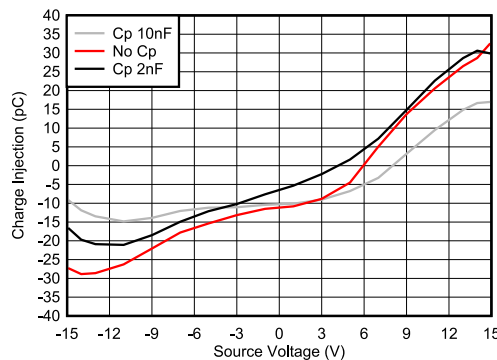

图 9-2. Charge Injection Compensation
The TMUX620x contain specialized architecture to reduce charge injection on the Drain (D). To further reduce charge injection in a sensitive application, a compensation capacitor (C_p) can be added on the Source (Sx). This will ensure that excess charge from the switch transition will be pushed into the compensation capacitor on the Source (Sx) instead of the Drain (D). As a general rule of thumb, C_p should be 20x larger than the equivalent load capacitance on the Drain (D). 图 9-2 shows charge injection variation with different compensation capacitors on the Source side. This plot was captured on the TMUX6219 as part of the TMUX62xx family with a 100pF load capacitance.
Many SAR ADCs have an analog input structure that consists of a sampling switch and a sampling capacitor. Many signal chains will have a driver amplifier to help charge the input of the ADC to meet a fast system acquisition time. However a driver amplifier is not always needed to drive SAR ADCs. Figure 9-2 shows a typical diagram of a sensor driving the SAR ADC input directly after being passed through the multiplexer. A filter capacitor (C_{FLT}) is connected to the input of the ADC to reduce the sampling charge injection and provides a charge bucket to quickly charge the internal sample-and-hold capacitor of the ADC.
The sensor block simplifies the device into a Thevenin equivalent voltage source (V_{TH}) and resistance (R_{TH}) which can be extracted from the device datasheets. Similarly the multiplexer can be thought of as a series resistance (R_{ON(MUX)}) and capacitance (C_{ON(MUX)}). To ensure maximum precision of the signal chain the system should be able to settle within 1/2 of an LSB within the acquisition time of the ADC. Figure 9-2 shows the time constant can be calculated. This equation highlights the importance of selecting a multiplexer with low on-resistance to further reduce the system time constant. Additionally low charge injection performance of the multiplexer is helpful to reduce conversion errors and improve accuracy of the measurements.